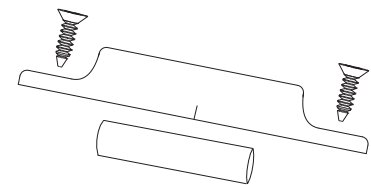

Figure 3: Magnet Assembly
2. Use the provided screws to secure the magnet in place. See Figure 3.